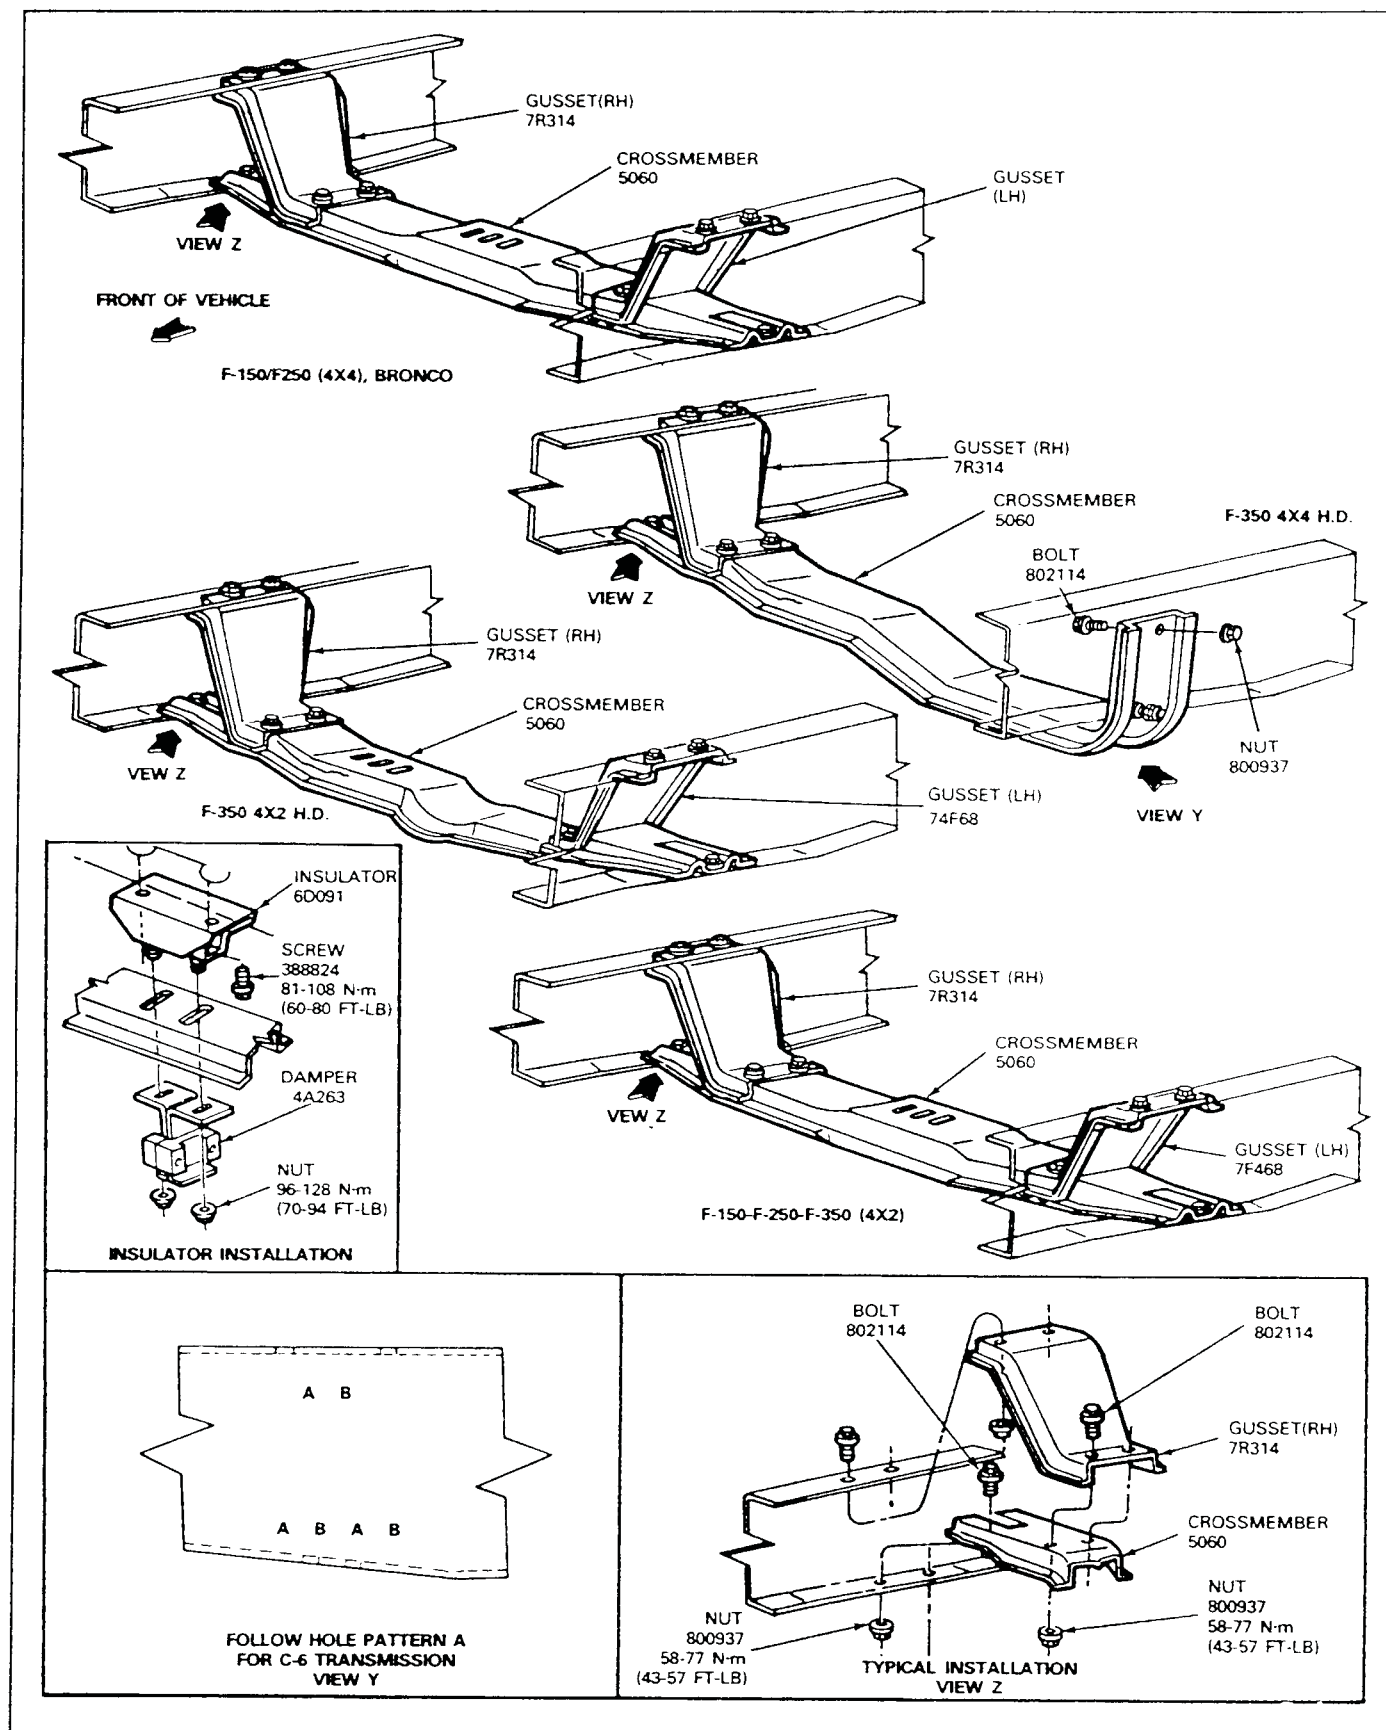

FIG. 8 Crossmember Installation F-150—F-350 (4x2) (4x4)
14. Remove the two engine rear support and insulator assembly-to-attaching bolts (Fig. 8).
15. Remove the two engine rear support and insulator assembly-to-extension housing attaching bolts (Fig. 8).
16. Remove the six bolts securing the No. 2 crossmember to the frame side rails (Fig. 8).